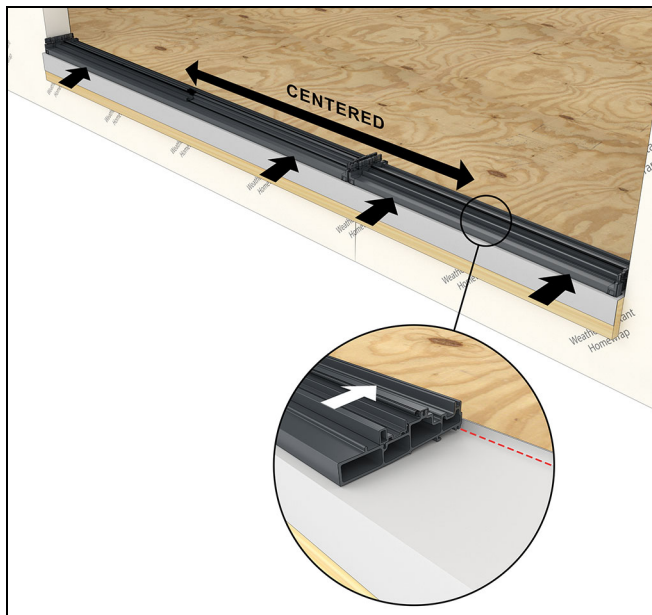
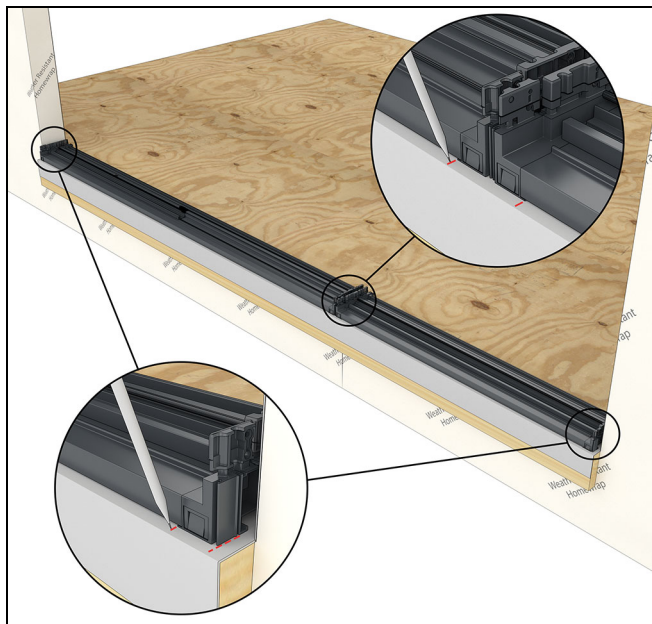
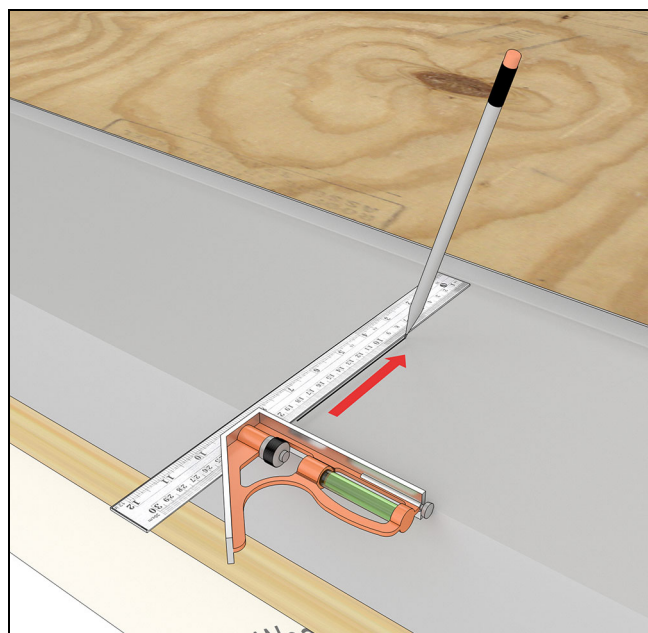

Figure 3
Figure 4
Figure 5
3. Dry fit the sill components in the opening. Center the components (left to right) and mark the edges of each corner key. If marking the sill from the interior, use a speed square to draw a line See Figure 3, Figure 4 and Figure 5.